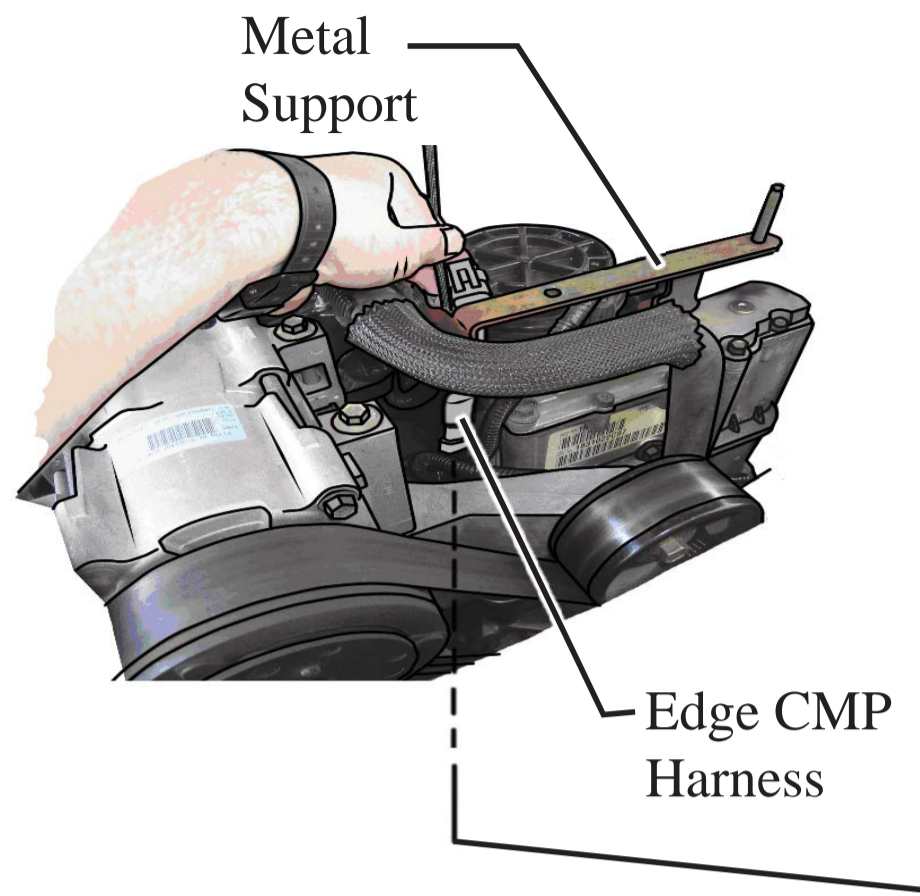

FIGURE 8 - ROUTING VIEW
2. Route the CMP harness across the top of the engine, and down towards the bottom of the engine as shown in Figure 8. (It is best to route along side the factory wiring harness)
harness to ensure the best routing path is taken. The metal support for the plastic cover is a convenient place to secure the harness using a wire tie (see Figure 8).